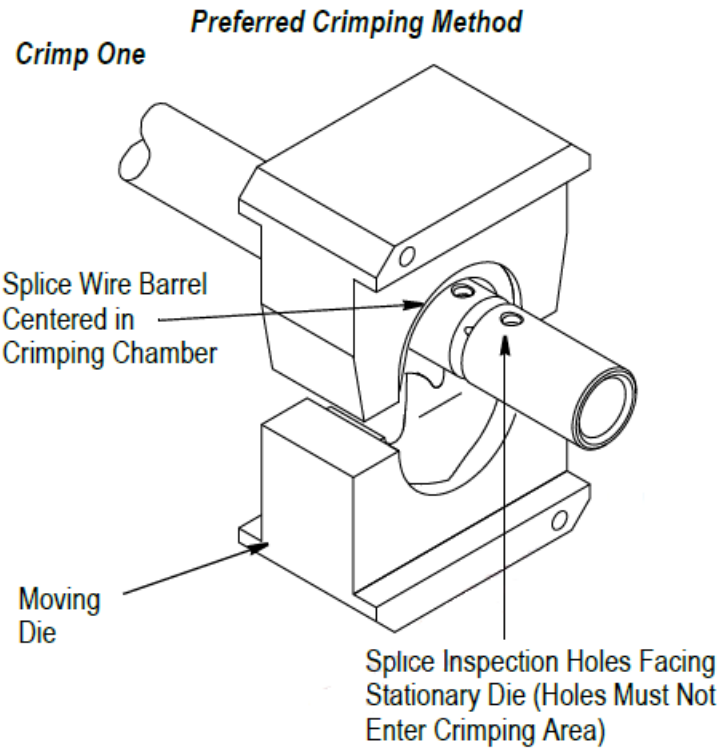

Figure 3
2. Position the butt splice on the stationary die so the splice inspection holes face the stationary die. **Make sure the wire barrel to be crimped is centered in the crimping chamber** (See Figure 3).